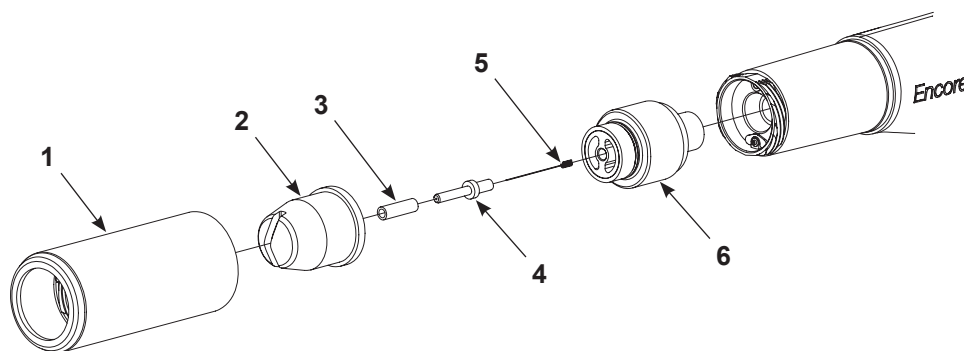

Figure 4-2 Cleaning Flat and Corner Spray Nozzles
1. See Figure 4-2. Unscrew the nozzle nut (1) counterclockwise.
2. Pull the nozzle nut (1) and nozzle (2) off the spray gun. Remove the nozzle from the nut and clean both with low-pressure compressed air and clean cloths. Replace if worn or damaged.
4. Inspect the wear sleeve (3) and electrode holder (4). If either is worn or damaged, replace them with the flat spray electrode holder kit.
- a. Unscrew electrode holder and sleeve from the electrode support assembly (6).
- a. Install the new sleeve (3) over the new electrode holder (4).
- b. Install the electrode (5) in the new holder, then screw the holder into the electrode support assembly (6).
6. Install the nozzle (2) onto the electrode support (6), then screw the nozzle nut (1) onto the spray gun body clockwise until finger tight.